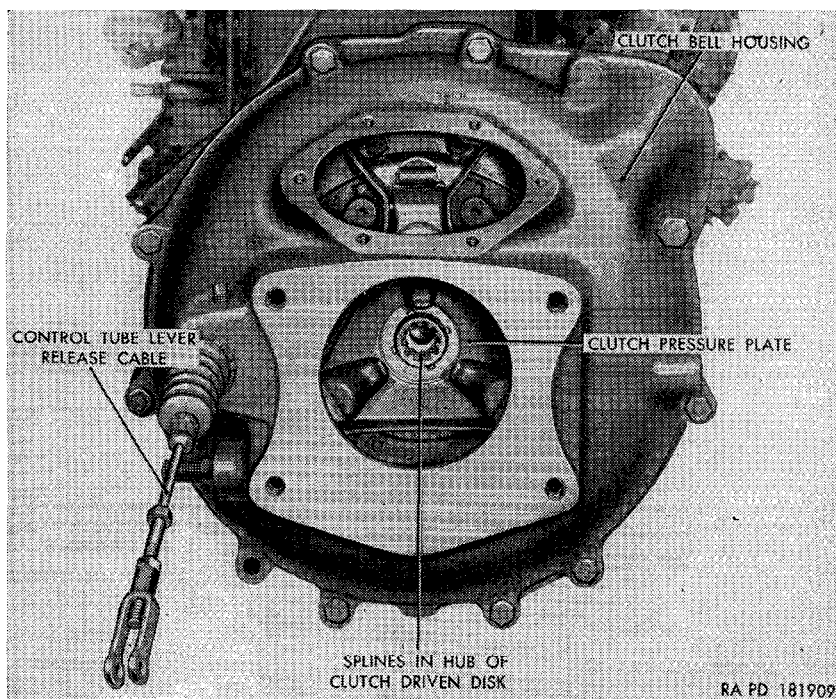

Figure 125. Clutch bell housing—rear view—transmission removed.
a. Description. The clutch, located between the engine and transmission, is a single disk, dry-type, composed of two major units, the clutch pressure plate (fig. 125) and the driven disk. The controlled pressure of the driven disk against the engine flywheel provides a
d. Aline the input shaft splines with the clutch driven disk (fig. 125) hub splines and insert the input shaft through the disk hub until it seats in the engine flywheel clutch pilot bearing. Secure the